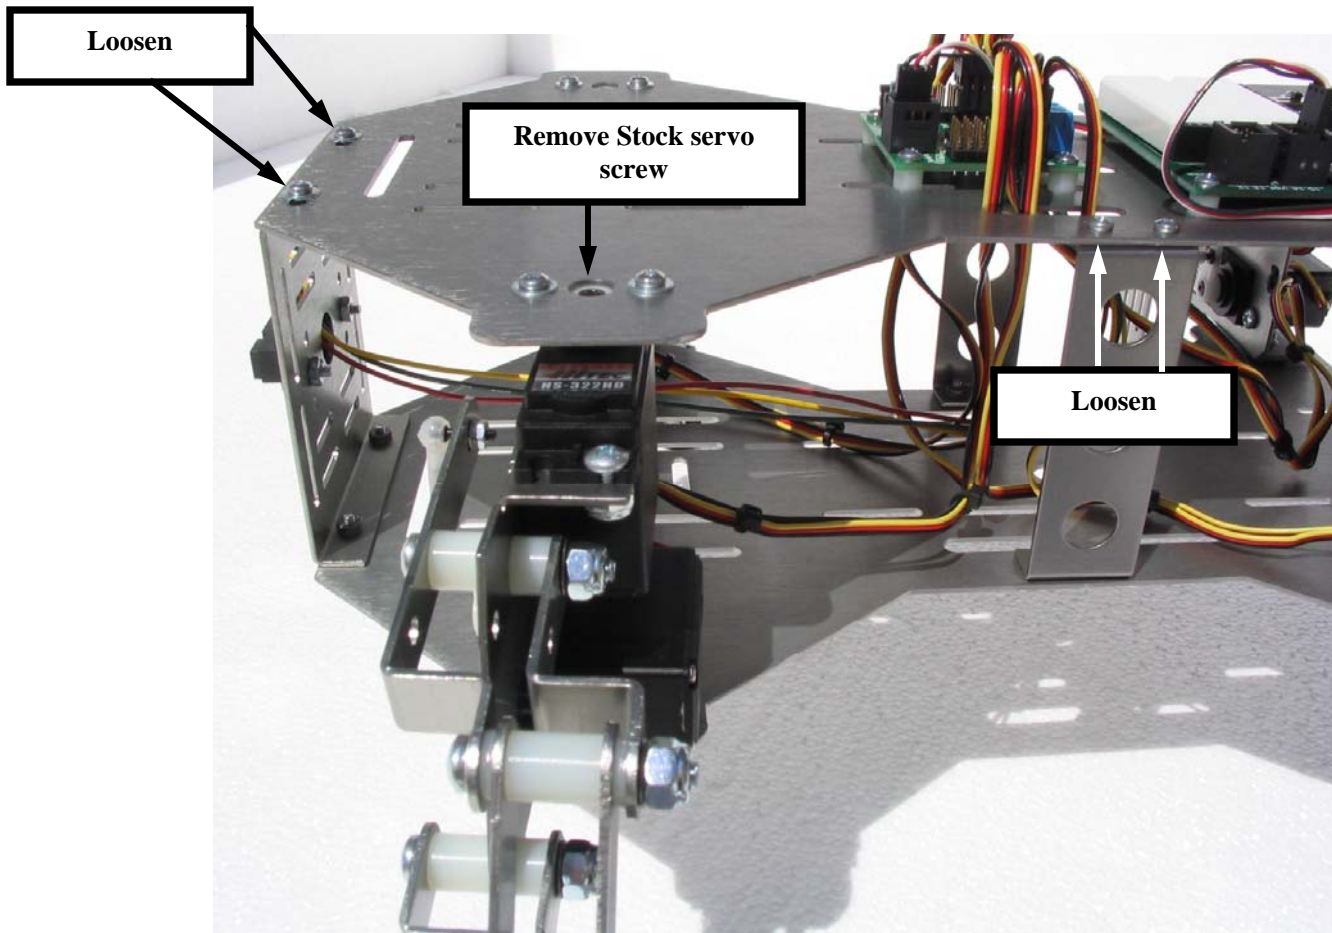

Figure 56: Horizontal Leg Adjustment
1. Loosen (do not remove) the side support screws on the same side as the leg as well as the upper front support screws. (see Figure 56)